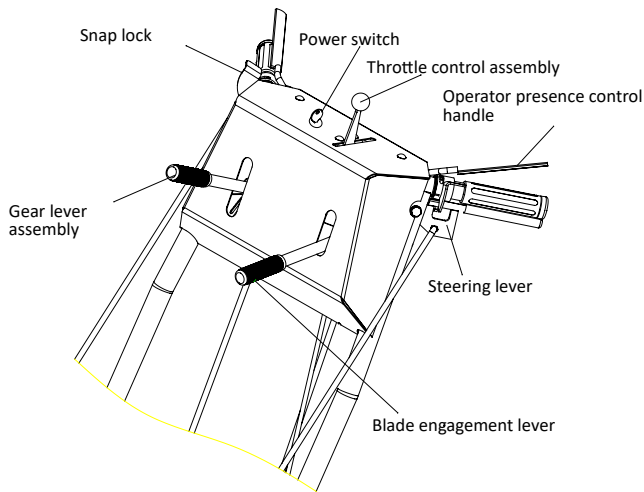

FIG. 1
2.6 Operator controls (see FIG 1)